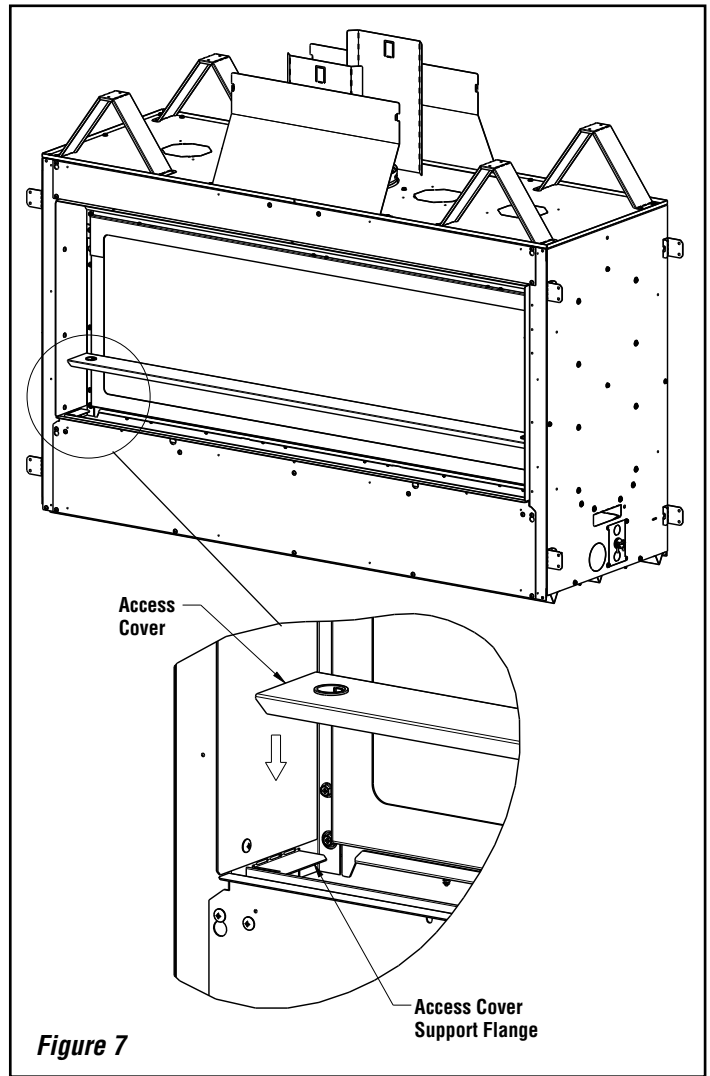

Figure 7
9. Locate the Access Cover Support Flanges on both sides just below the side tile stops and bend them up 90° (see **Figure 7**). Place the Access Cover onto the Support Flanges.